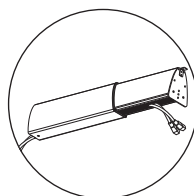
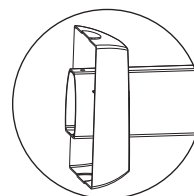
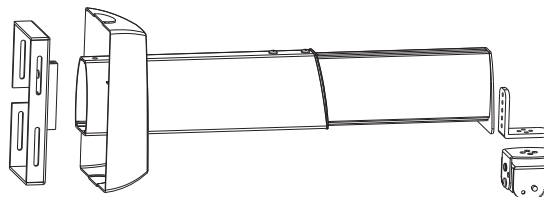
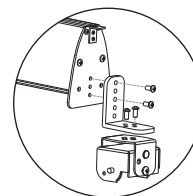

figure 1
figure 2
figure 3
figure 4
- 1 Firstly, collect the power wires to the main bar as figure 1. Invaginate the low cap to the main bar as figure 2. Install the low board to the main bar, and then fasten the screws (accessories 5) as figure 3. Finally, install the front board to installation board of main bar and install the adjuster to the front board, and then fasten the screws (accessories 6) as figure 4.